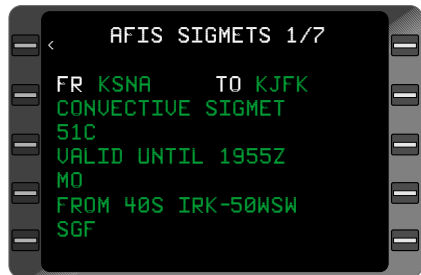

Figure 7-15
**FR:** Desired start VOR, airport, waypoint, Lat/Lon, VORTAC ident, or NAT (North Atlantic Tracks). (Figure 7-15 or 7-16)